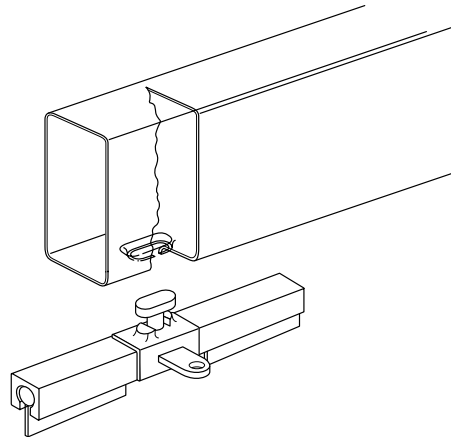

Fig. 3.69 — Adapter Flamp for Conventional Anchoring System
**Notice:** Use Kent Moore Tools Frame Adapter Clamp (P/N J42058) to secure the vehicle if pulling and straightening is required (Fig. 3.69).